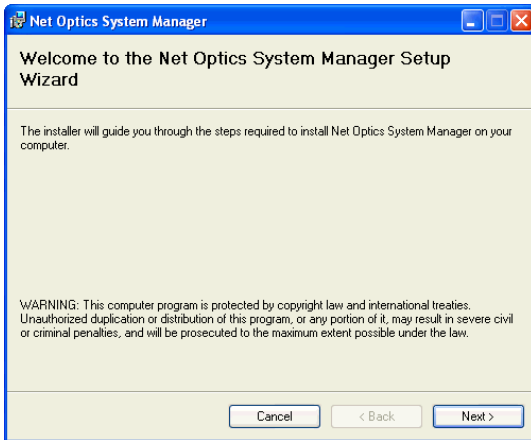

Figure 17: Welcome Dialog Box
- After reading the agreement, select **I Agree** and click **Next** to install System Manager. The Welcome dialog box appears as shown in Figure 17.